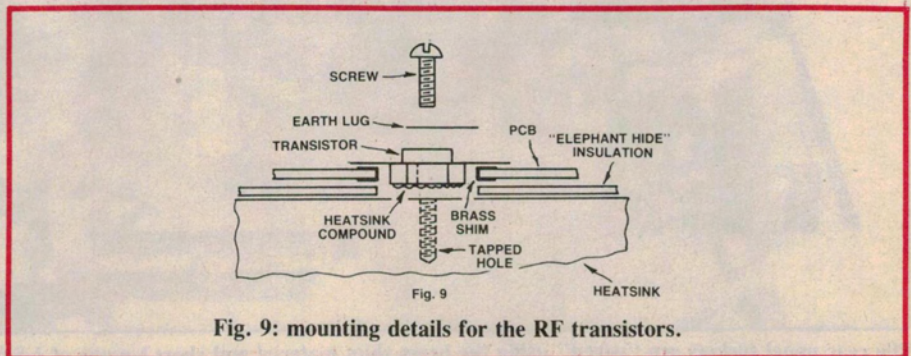

Fig. 9: mounting details for the RF transistors.
(2) Mark out the transistor mounting positions, then remove the board and make two square cutouts in the insulation material so that the RF transistor cases can make direct contact with the heatsink.
(3) Re-install the PC board on the heatsink.
(4) Carefully trim the four outside legs of the RF transistors by about 3mm (see Fig.8). This done, bolt the transistors to the heatsink and solder their legs to the PC tracks and brass shims. Fig.9 shows the details.